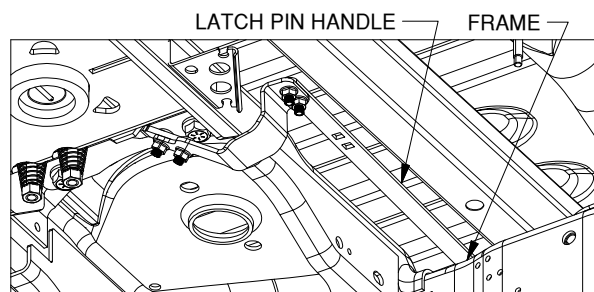

Figure D4: Looking back at driver side of center section.
- 4. Install the latch pin handle.** Beginning under the vehicle, "thread" the end of the handle in front of the brake lines and over the frame on the driver side. Attach the handle to the latching mechanism over the 3/8" carriage bolts with two 3/8" locking flange nuts, see Figure D4. Be sure that the handle is in the proper position and that it does not interfere with any other components of the vehicle. Torque the nuts to 30 ft. lbs. to secure the handle.